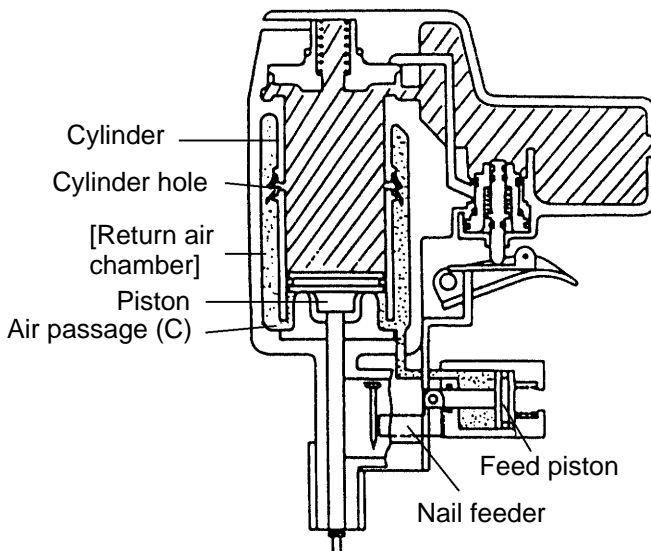

Fig. 8 During nailing (II)
(3) During nailing (II) (see Fig. 8)